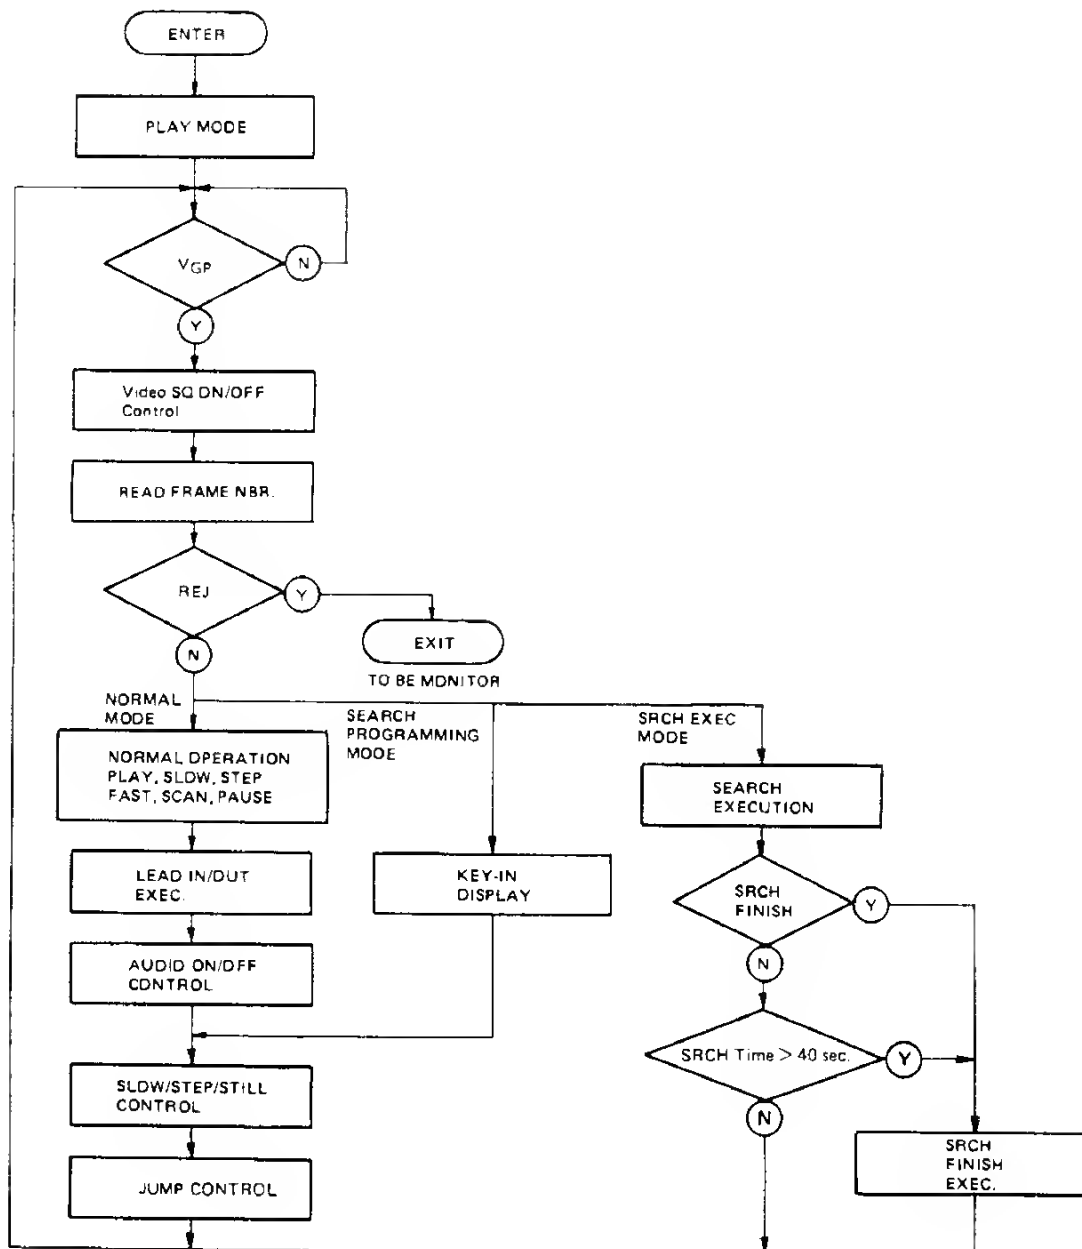

Fig. 28 Flow chart of P-B monitor
(2) Playback monitor (Fig. 28)